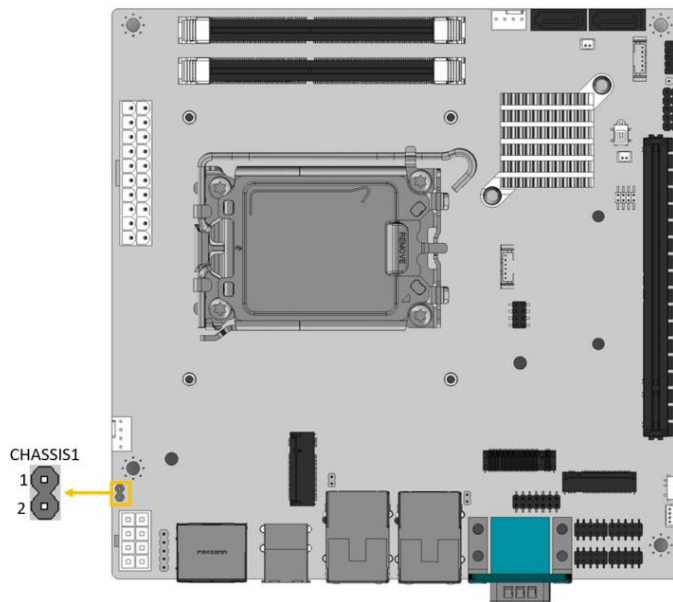

Figure 3-20: Chassis Intrusion Connector Location
- CN Location:** See Figure 3-20